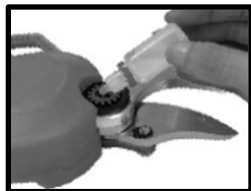

Fig. 2
2. Drip oil into the hole and plug it with cotton wool (Fig. 2)